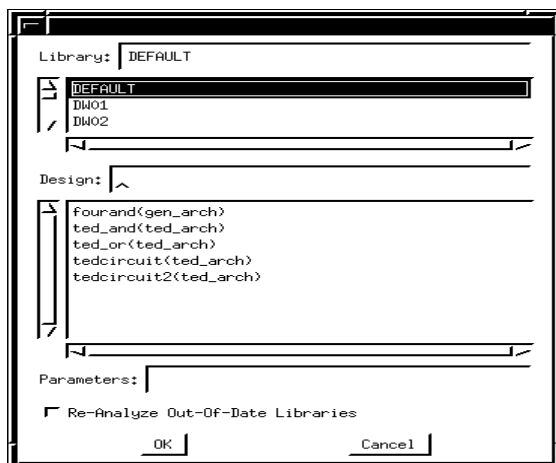

Figure 11: Elaborate Design Window.
(4) From the Synopsys Design Analyzer window select File -> Elaborate. The Elaborate Design window will appear as illustrated in Figure 11. Select Default from the list of libraries listed in the top part of the form. A list of designs will then appear. Select tedcircuit(ted\_arch) from as the Design and select OK.